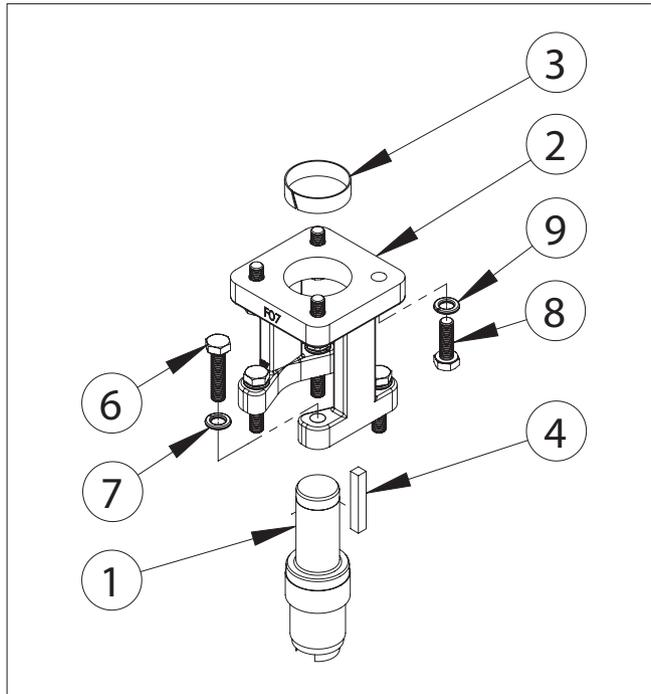

Figure 14. Linkage Assembly – Key Drive
7.3 BRACKET PREPARATION – (SEE FIGURE 14)
Key Drive Actuators (Figure 14): Install the key (4) into the key slot of the coupling (1). The key should be filed to closely fit into coupling and actuator keyway. If the fit is loose, apply Loctite® Keyfit or equivalent.